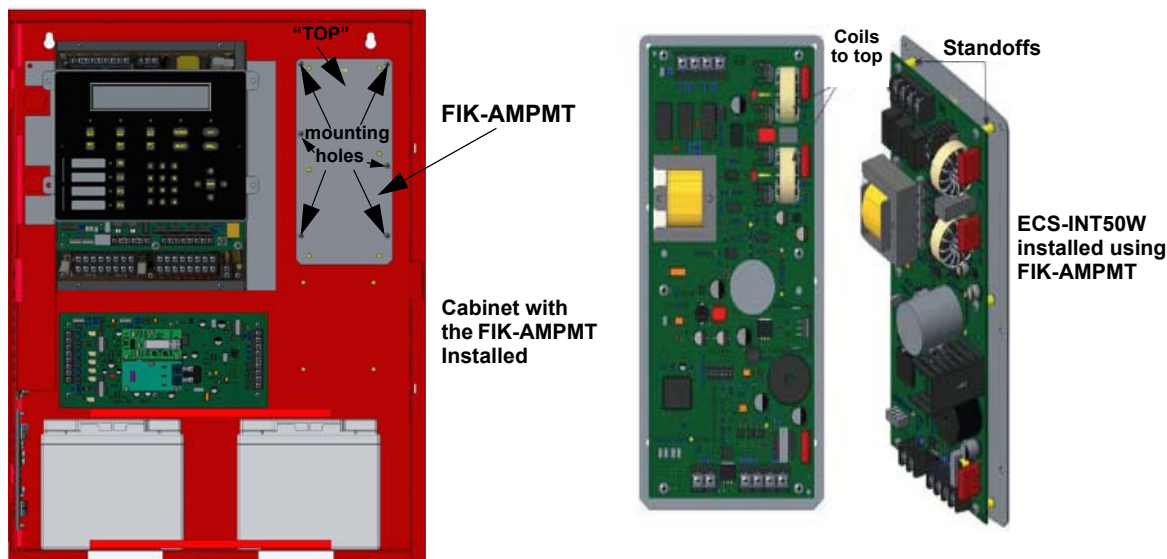

Figure 3 Mounting the FIK-INT50W
5. Position with the “Top” side up. (See Figure 3).
- Secure the FIK-INT50W onto the six standoffs, making sure the two coil parts are at the top, and on the right side of the FIK-AMPMT. See Figure 3 for the coil position.